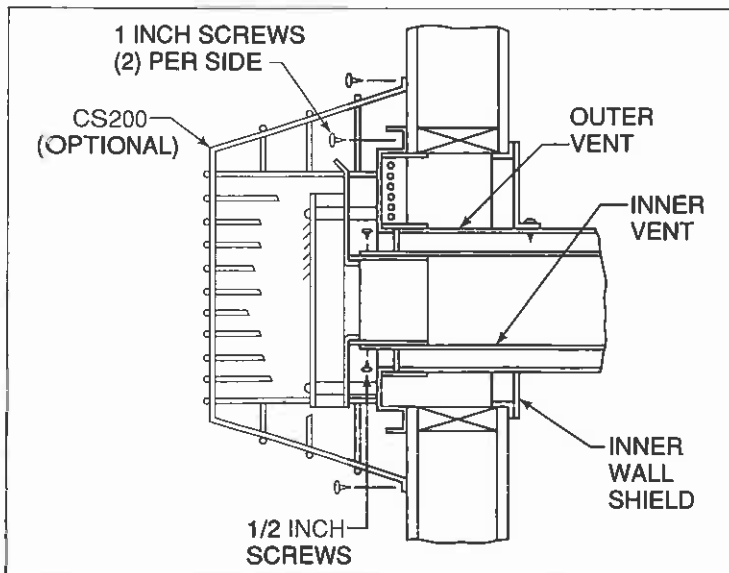

Figure 7
The last section of vent will require cutting, depending on the wall thickness and appliance location. The end of the vent must penetrate the exterior wall. Cut the inner and outer sections so the pipe extends past the wall by 1" on the outer pipe and 2 1/2" on the inner pipe. See Figure 7. Horizontal runs will require the use of (1) Vent Support (VS4) for every 3' of vent.
To install the cap, slide the cap pipe sections into the vent pipe. Secure the cap flush to the wall using (8) 1" fasteners provided. Seal the cap to the wall with a mastic such as silicone caulking. Fasten the inner vent with (3) 1/2" screws to secure the vent. (An optional CS200 Cap Shield is required if the cap is located in an area of easy accessibility.) See Figure 7. Vent termination must not be released into wall or siding.
B. No ground.	Check that wiring is grounded as shown in Figure 7.